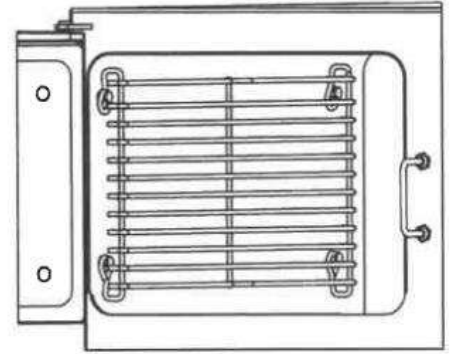

Figure 3-1
1. Refer to Figure 3-1. Each rack has four loops: two top and two bottom. Hold the slide rack so the ends of the hanger loops are towards the compartment wall.